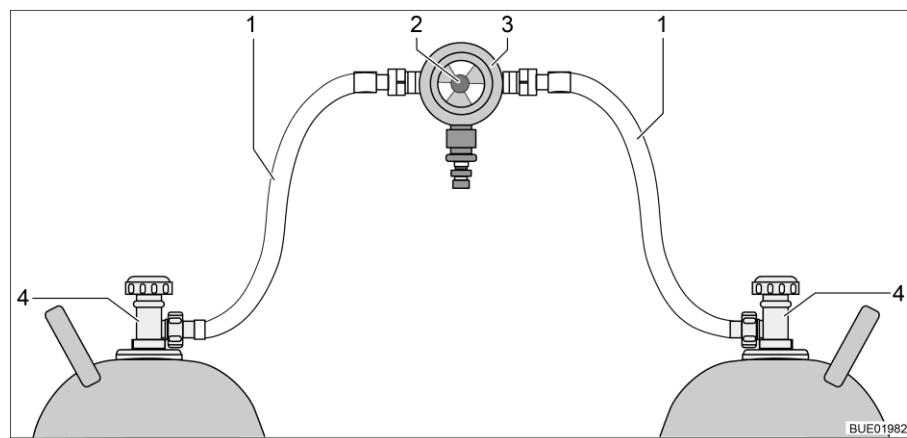
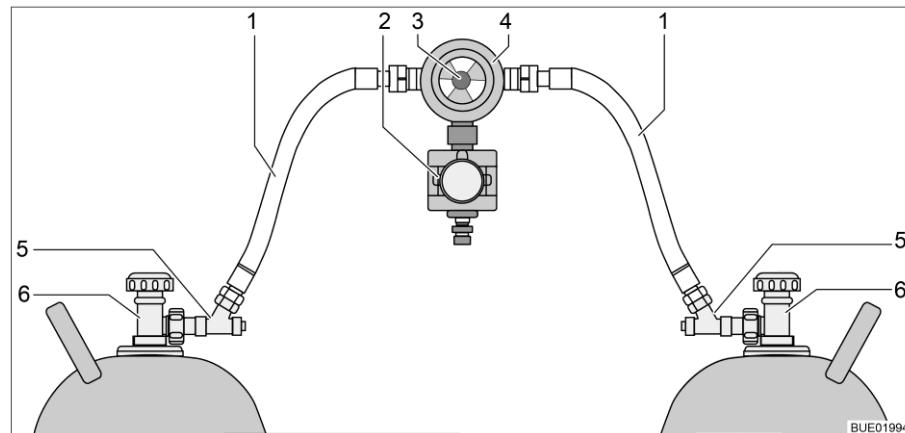

Fig. 39 Gas bottle switching facility
Fig. 40 Gas bottle switching facility with CPU
The gas bottle switching facility consists of a combined gas pressure regulator with reversing valve and indicator (Fig. 39,3). The gas bottle switching facility is installed between the two gas tubes (Fig. 39,1).
The gas bottle switching facility consists of a combined gas pressure regulator with reversing valve and indicator (Fig. 40,4), and an electrovalve (Fig. 40,2). The electrovalve blocks the gas supply to the vehicle in the event of a full braking, an accident, or an unusually great inclined position. The gas bottle switching facility is installed between the two gas tubes (Fig. 40,1) with hose break guards (Fig. 40,5).
Use the knob (Fig. 39,2 or Fig. 40,3) on the gas bottle switching facility to select which of the gas bottles is to be used as a primary bottle and which is to be used as a reserve bottle.
Only the electrical functions can be switched at the operating unit (Fig. 41). The regulator taps on the gas bottles (Fig. 39,4 or Fig. 40,6) must be opened and closed manually.
- Open the regulator taps of the gas bottles (Fig. 39,4 or Fig. 40,6).
- Press the hose break guards (Fig. 40,5) successively for 10 seconds.
- Use the knob (Fig. 39,2 or Fig. 40,3) on the switching facility to select the gas bottle which is to be the primary source of gas (primary bottle). Always turn the knob as far as it will go.
- Close the regulator taps of the gas bottles (Fig. 39,4 or Fig. 40,6).